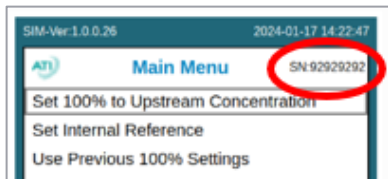

Figure 6. Serial number for factory password reset
**Step 2.** You must provide the serial # of the iProbe Plus, found at the top of the screen (Figure 6)